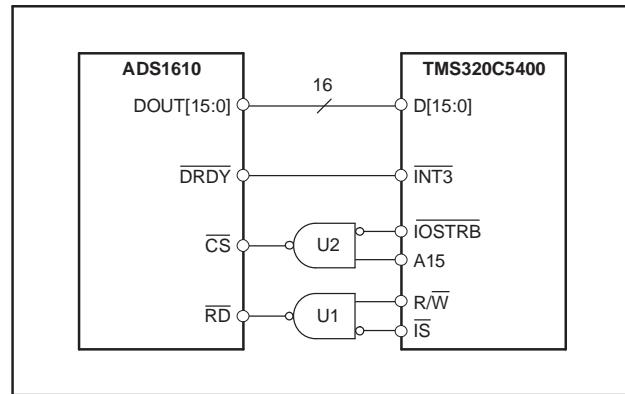

Figure 43. ADS1610 – TMS320C5400 Interface Connection
Figure 43 illustrates how to connect the ADS1610 to the TMS320C5400 DSP. The processor controls the reading using the outputs R/W and IS. The I/O space-select signal (IS) is optional and is used to prevent the ADS1610 RD input from being strobed when the DSP is accessing other external memory